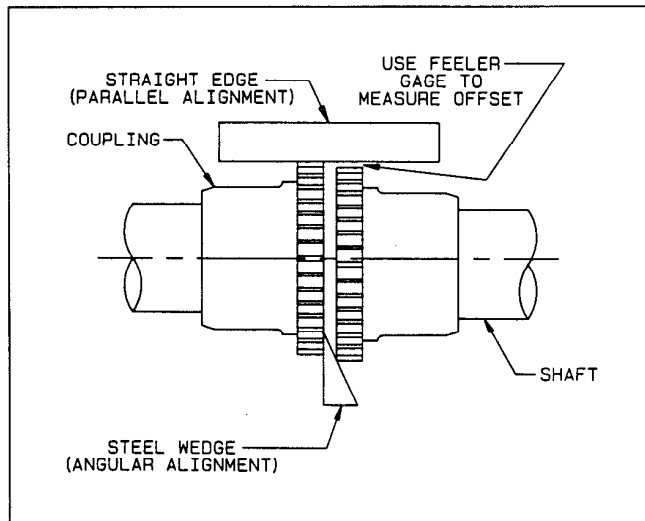

Figure 2
- Align the coupling to within the manufacturer's limits for parallel and angular misalignment (see Figure 2). A dial indicator or laser can also be used for alignment where greater precision is desired. Adjustments should be made by moving the motor to change shaft angle, and by the use of foot shims to change motor shaft height. Do not move the fan shaft or bearing.